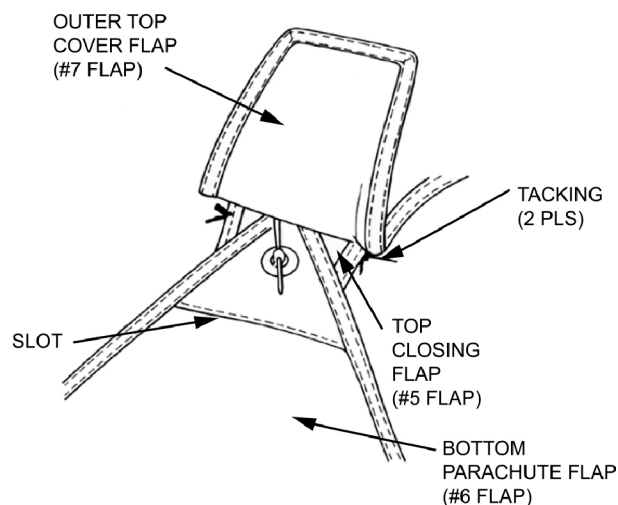

**Figure 18. Outer Top Cover Flap (#7 Flap) Closing**
d. Secure tuck flap under top closing flap (#5 flap) and pull down on outer top cover end (#7 flap) to help position flap (Figure 18).